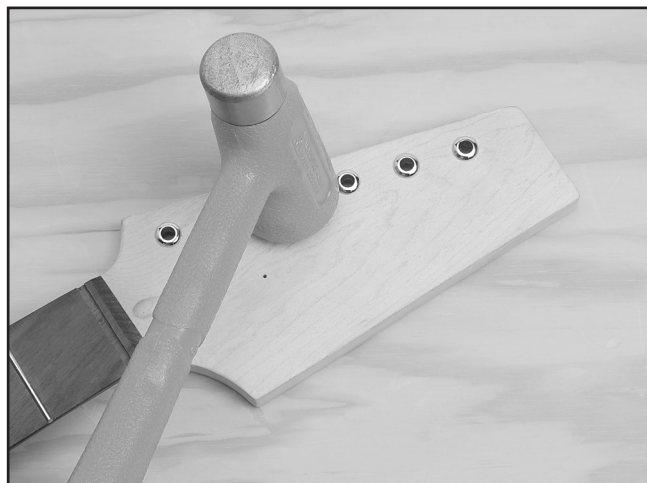

Figure 22. Installing bushings on headstock.
- Place the pegboard face up on a level surface, and use a dead blow hammer or a dowel in a drill press to drive the six bushings into the tuner mounting holes until they are flush with the headstock (**Figure 22**).